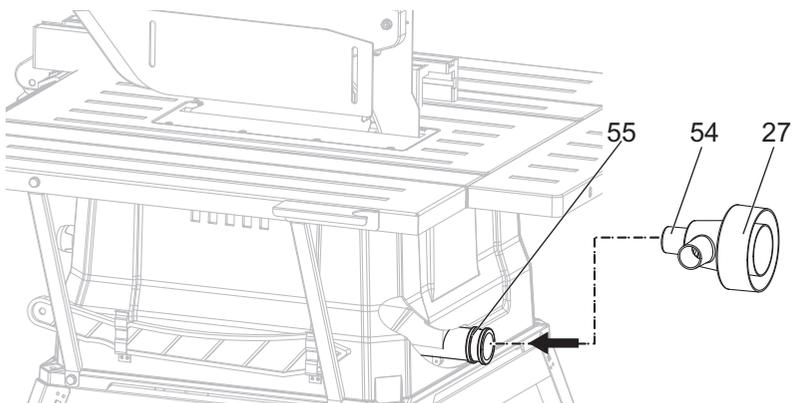

Fig. 21
- > Attach the side A [54] dust extraction adapter [27] to the dust extraction port [55] on the rear of the table saw as shown in the Fig. 21.